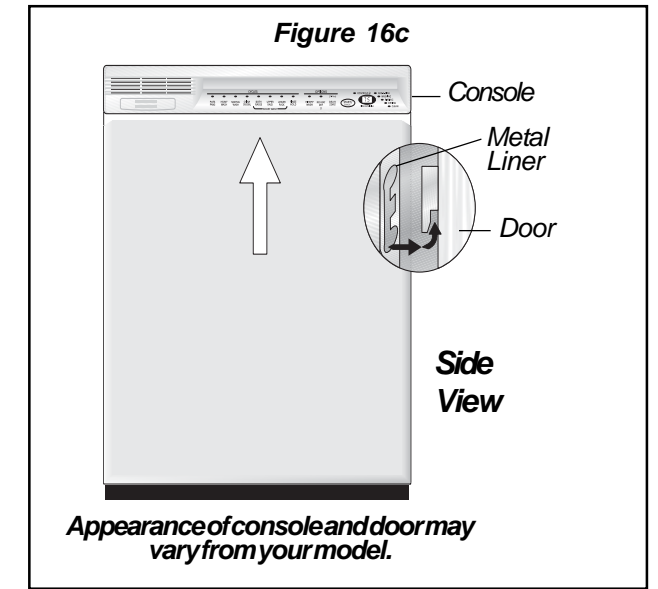

Figure 16c
- When ready to replace door, fit the slots on each side of top door edge over the tabs on the metal liner. Push on sides to insure the door is flat. Push up from bottom until there is no gap between door and console. See **Figure 16c**.